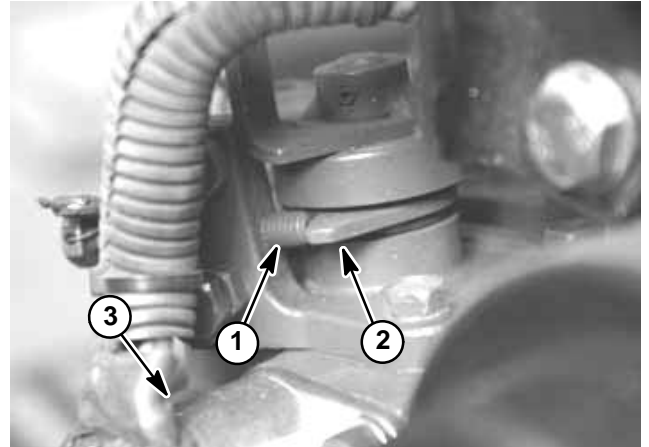

Figure 1
2. Check position of the engine speed control lever on fuel injection pump (Fig. 1). The speed control lever should be contacting the high speed screw when the throttle control lever is in the **FAST** position.